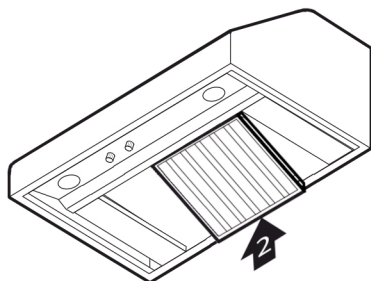

FIGURE 20: INSTALL THE STAINLESS STEEL BAFFLES – PART B
- b. Bring up the rear edge of baffle until it clears the back edge of hood (FIGURE 20).